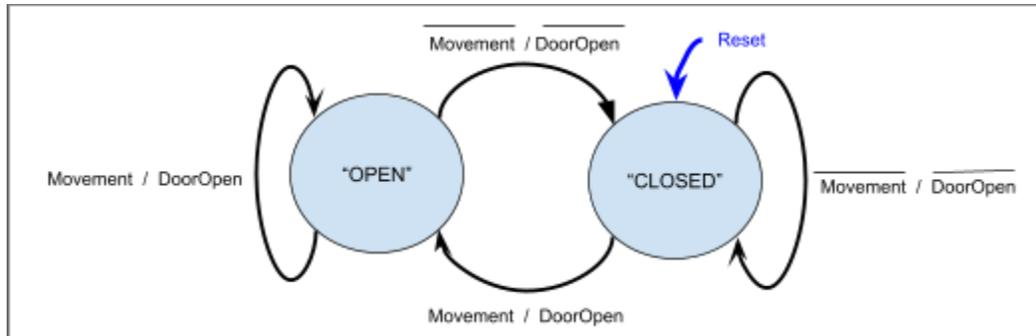

Figure 1: Automatic Door State Diagram
Assume we have a digital system which is an automatic door with two states: open and closed. If there is movement near the door (input is true), we want the system to be in the “open” state. When there is no movement nearby (input is false), we want the output to be “closed.” We can describe this system visually with a “state diagram”, as in Figure 1.
- In Figure 1, the arrows between states describe when changes occur. Because there is only one significant input signal (Movement), there are only two possibilities in each state: ON (Movement is true) and OFF (Movement is false).
- In Figure 1, the arrow starting from the “open” state pointing back to itself demonstrates the following behavior: when there is movement, the door stays open (when Movement is true, the output DoorOpen is true).